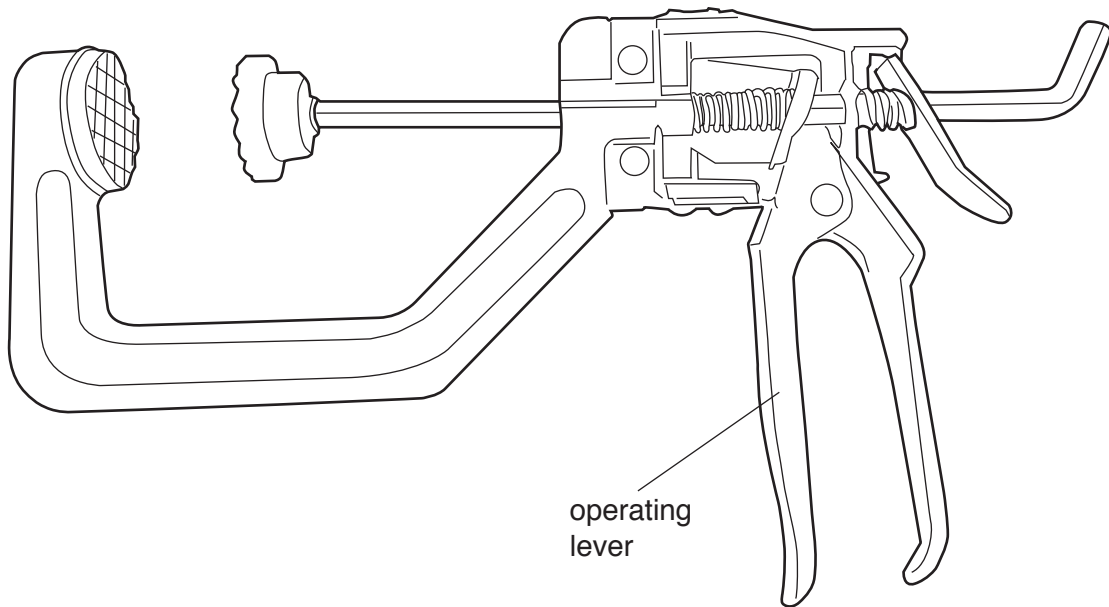

Fig. 7
(c) Fig. 7 shows a simple lever operated clamping device.
(i) On Fig. 7 label the Fulcrum (F) Effort (E) and Load (L) of the operating lever.